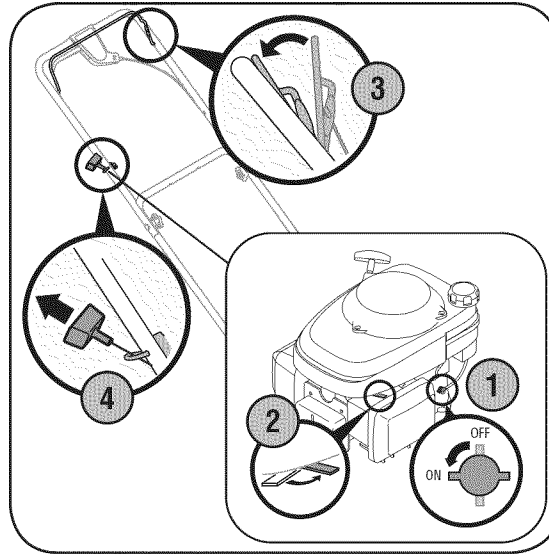

Figure 4-2: Starting the Honda engine.
2. Move the choke lever (if equipped) all the way backward into the choke position. See Figure 4-2.
3. Standing behind the mower, squeeze the blade control against upper handle as shown in Figure 4-2. The choke will now begin to slowly return to the off choke position after activating the blade control. Therefore, quickly move onto step four below.